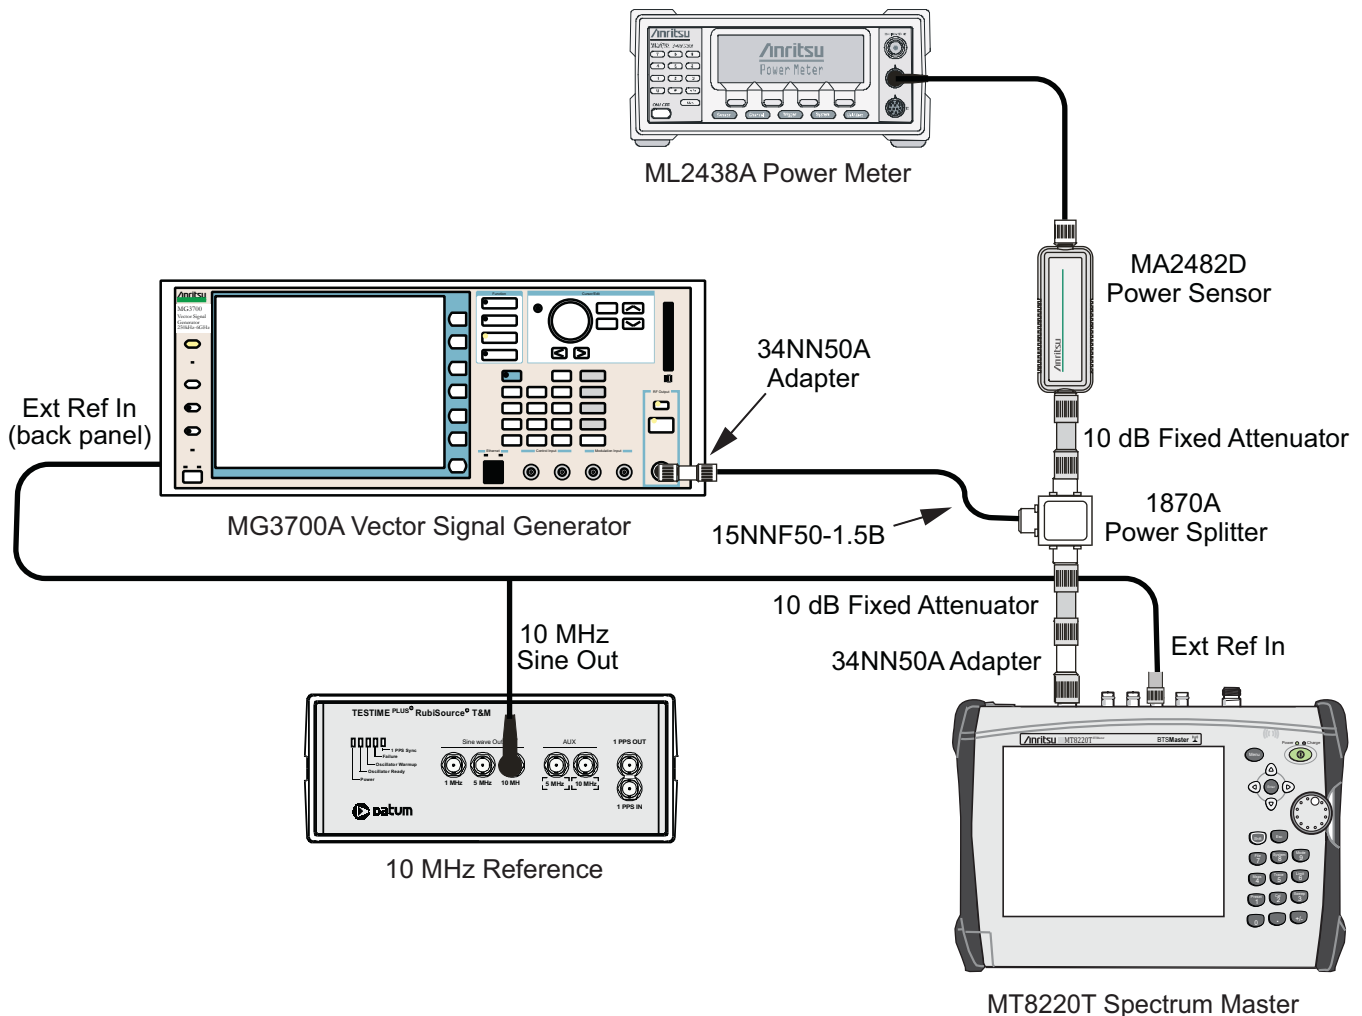

Figure 6-11. Mobile WiMAX Channel Power Accuracy Test Setup
4. Connect all of the test equipment as shown in Figure 6-11.